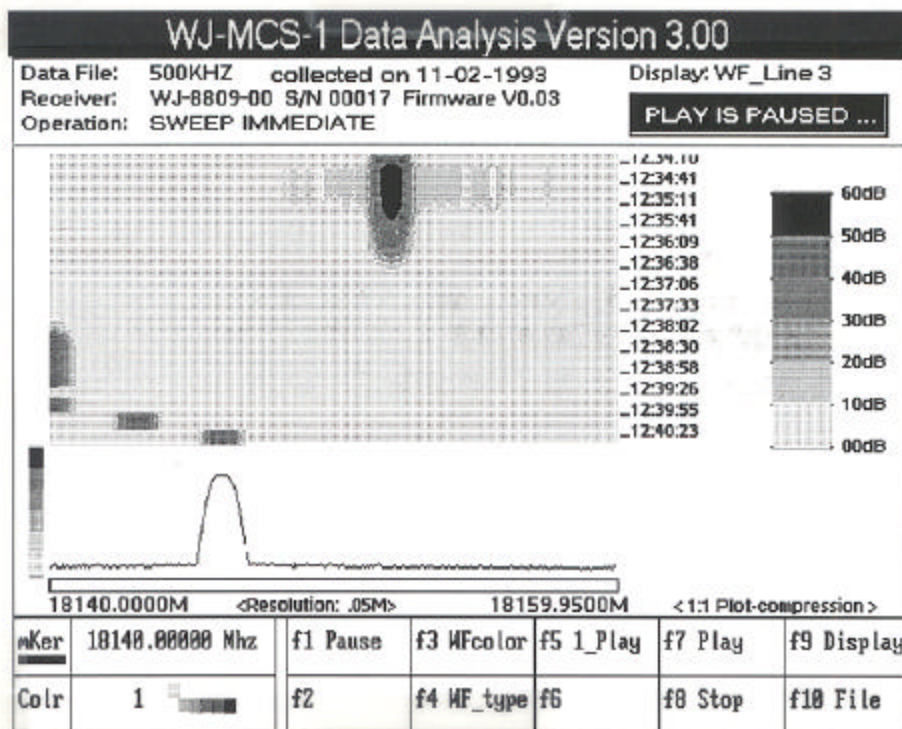

Figure I-39. DATA ANALYSIS WF_Line 3 Display
3. "WF_Line 3" - (Waterfall Line 3, shown in **Figure I-39**) provides a similar display to those of WF_Line 1 and WF_Line 2 in that the three-dimensional display is the same. The two-dimensional display uses a line format to connect the peaks of the signal amplitude to give a line graph type display. As in the previous two WF_Line displays, the two-dimensional display is cleared prior to each sweep, while the three-dimensional display retains sweep data.